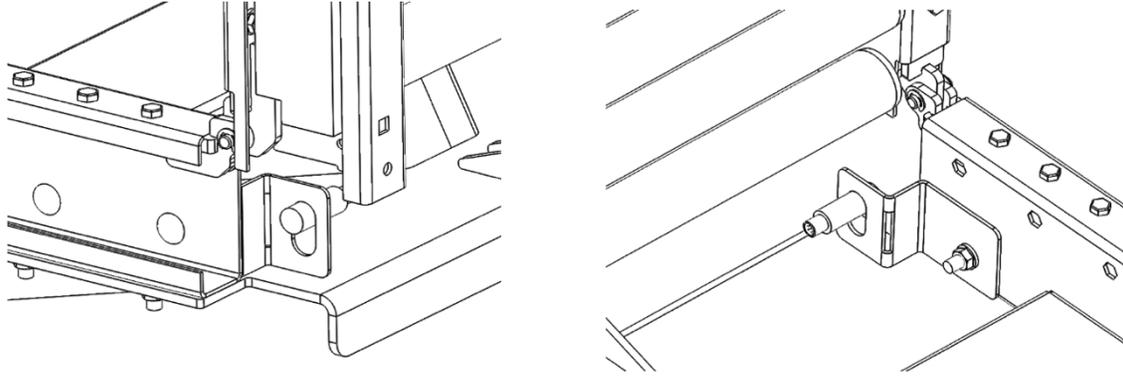

Figure 12: Proximity Sensor Mounting
- To finish the install of the gate, mount the proximity sensor. The proximity sensor and the mounting bracket will be included in the ship loose kit that comes with the gate. Figure 12 shows how to correctly mount the sensor.